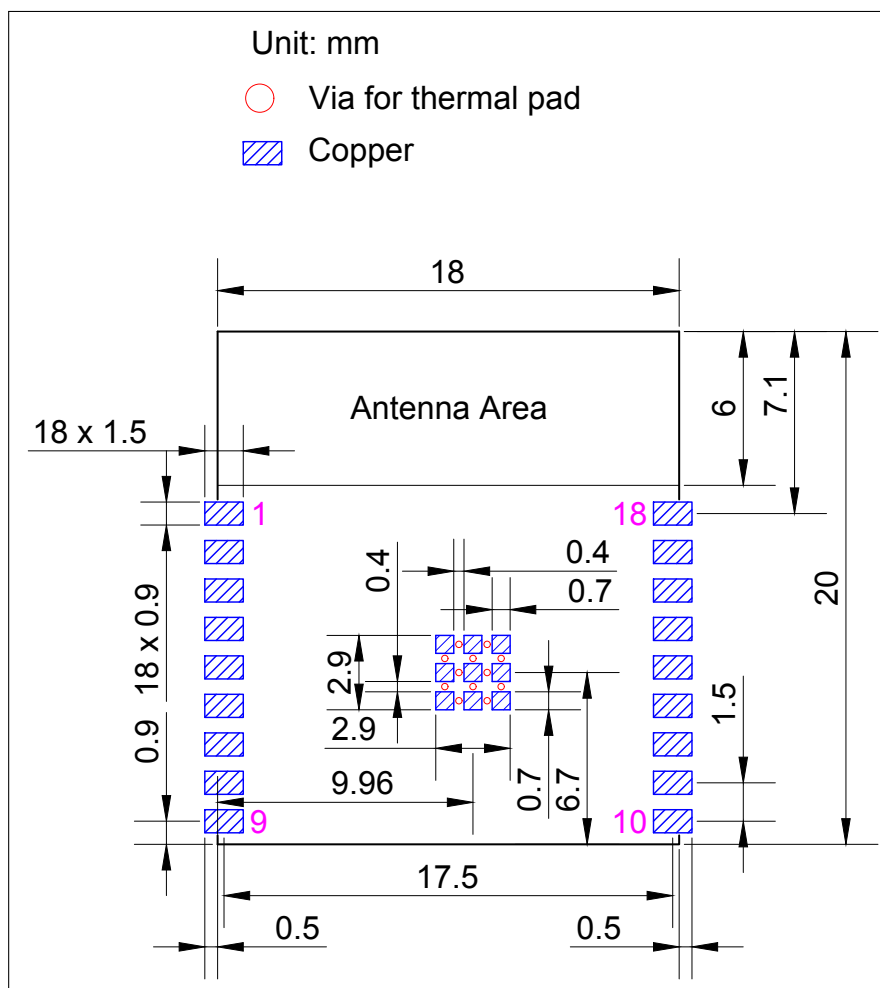
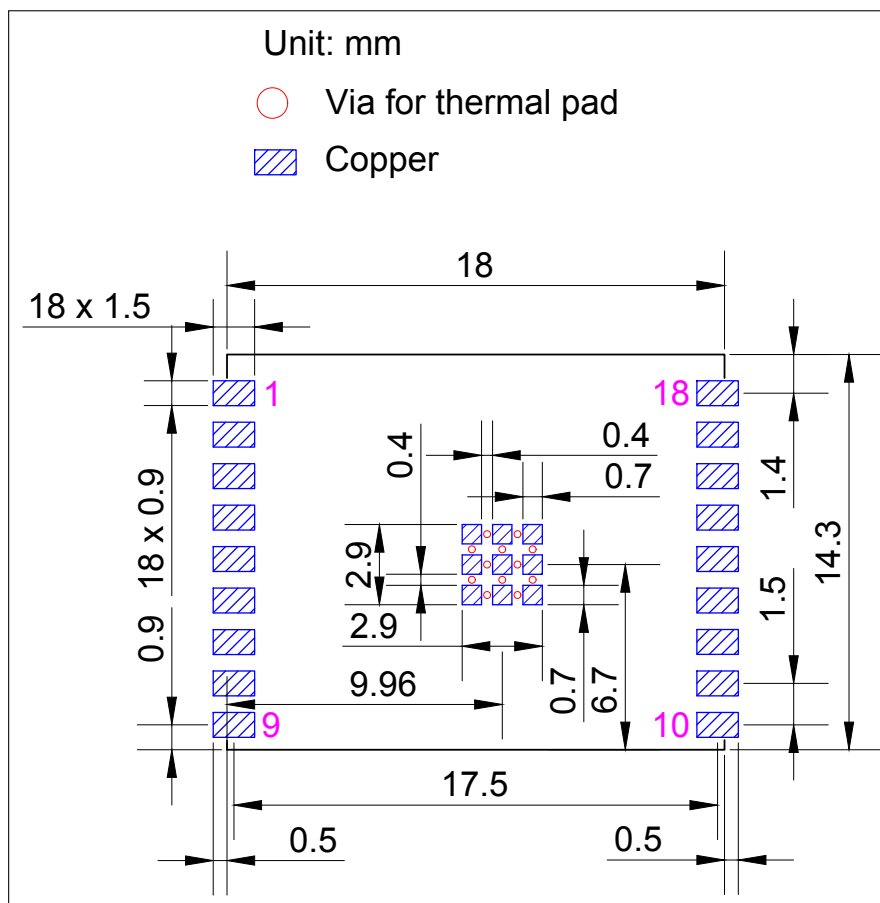

Figure 10: ESP32-C3-WROOM-02 Recommended PCB Land Pattern
Figure 11: ESP32-C3-WROOM-02U Recommended PCB Land Pattern
- Figures for recommended PCB land patterns with all the dimensions needed for PCB design. See Figure 10 ESP32-C3-WROOM-02 Recommended PCB Land Pattern and Figure 11 ESP32-C3-WROOM-02U Recommended PCB Land Pattern.
- Source files of recommended PCB land patterns to measure dimensions not covered in Figure 10 and Figure 11. You can view the source files for ESP32-C3-WROOM-02 and ESP32-C3-WROOM-02U with Autodesk Viewer.